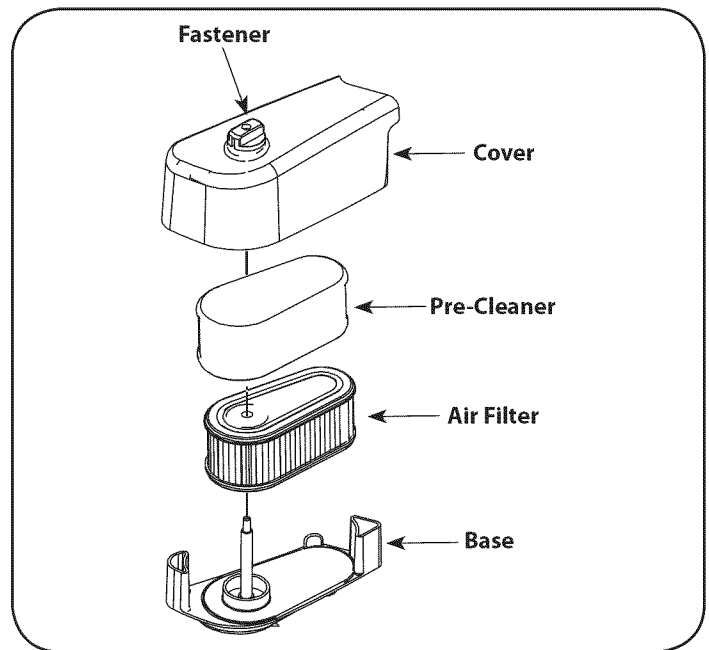

Figure 13
1. Remove the fastener and air cleaner cover. See Figure 13.